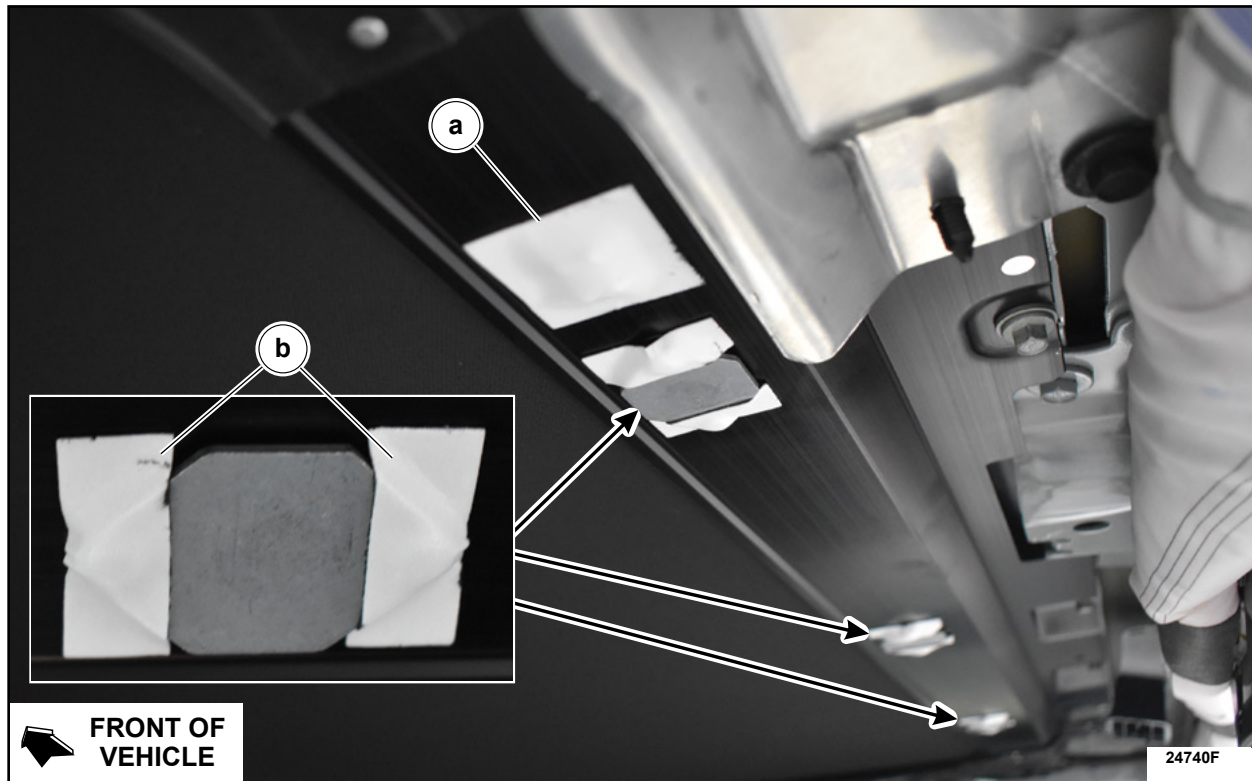

FIGURE 6
6. Apply the butyl patches as shown . See Figure 6.